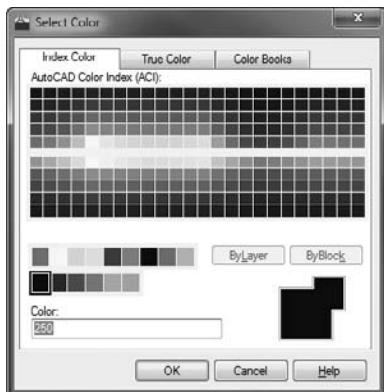

FIGURE 11.13 Selecting the gradient color
5. Click the Index Color tab in the Select Color dialog box, select color 250 in the bottom row of swatches (see Figure 11.13), and then click OK.